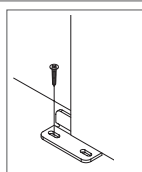

Figure 7
2. Position the Door Guide part way into the groove in the bottom of the door (Figure 7).